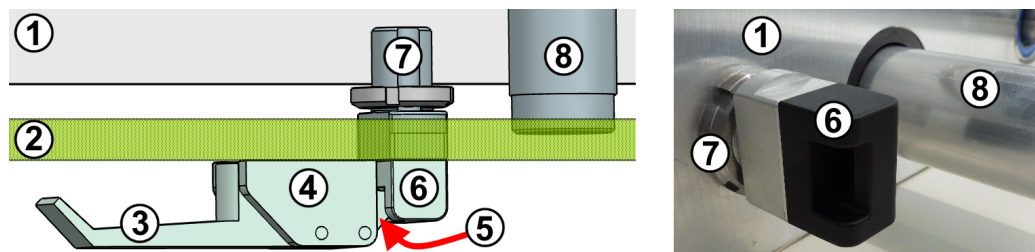

Figure 7-2: Cross-sectional top view of over-center compression-latch mechanism (left), and details picture (right)
The components of the compression-latch mechanism are shown in Figure 7-2:
This position prevents a collision of the latch (labeled 5 in Figure 7-2) with the catch block (6).